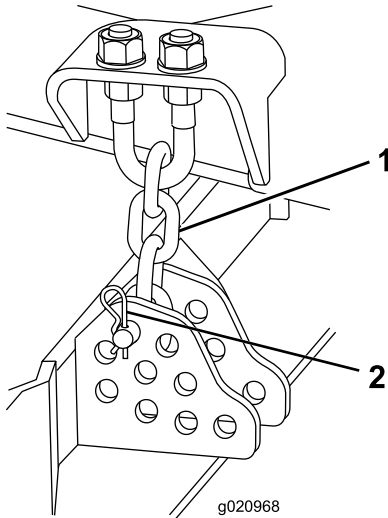

Figure 16
9. Remove the hairpin cotter and clevis pin securing the height-of-cut chains to the rear of the mower deck (Figure 16).